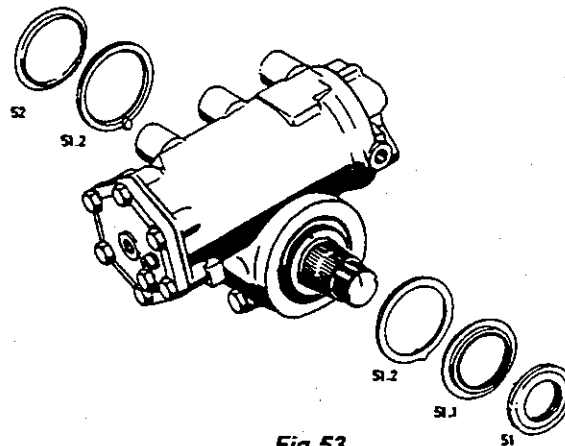

Fig.53
Oil or grease the inner groove of dust seal (51), the outer circumference of gasket (51.2) and the mating face of gasket (51.2) on housing (1) (see note in chapter III. with regard to type of grease) (Fig.53).